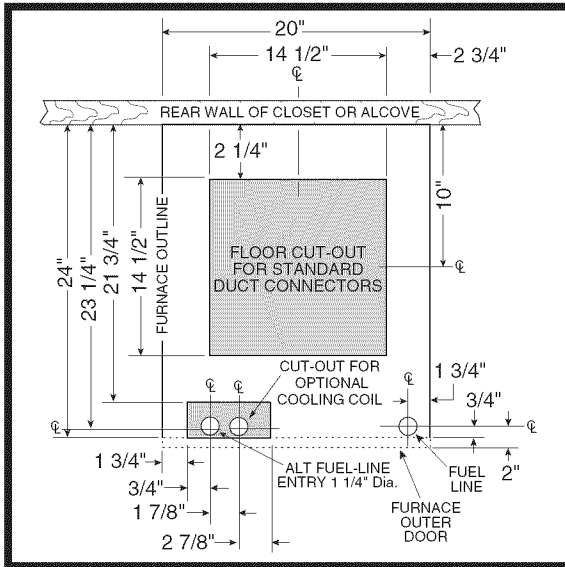
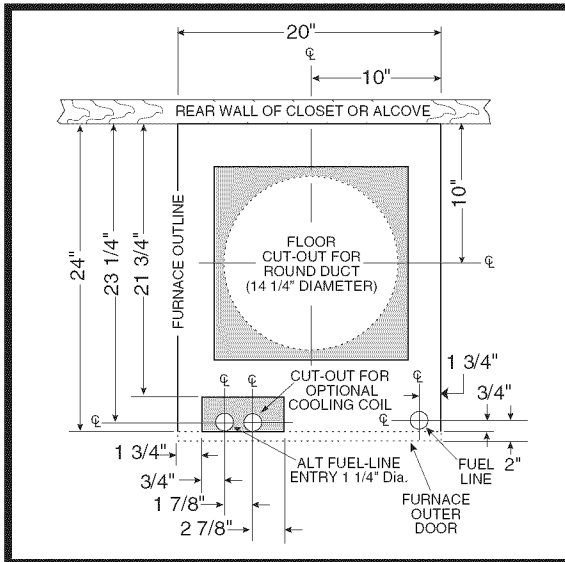

Figure 6. Cut-Out Dimensions for Standard Duct Connectors
Figure 7. Cut-Out Dimensions for Round Duct Connectors
Floor cut-outs and fuel line holes must be carefully located to avoid misalignment of the furnace, and vent piping. To locate standard ducts see Figure 6 (page 9). For round ducts, see Figure 7.
2. Using the centerline as a starting point, draw the rest of the duct cut-out to the dimensions shown in Figures 6 or 7.
6. Measure and drill gas hole. and cut out for cooling coil (if applicable). See Figures 6 or 7 (page 9).